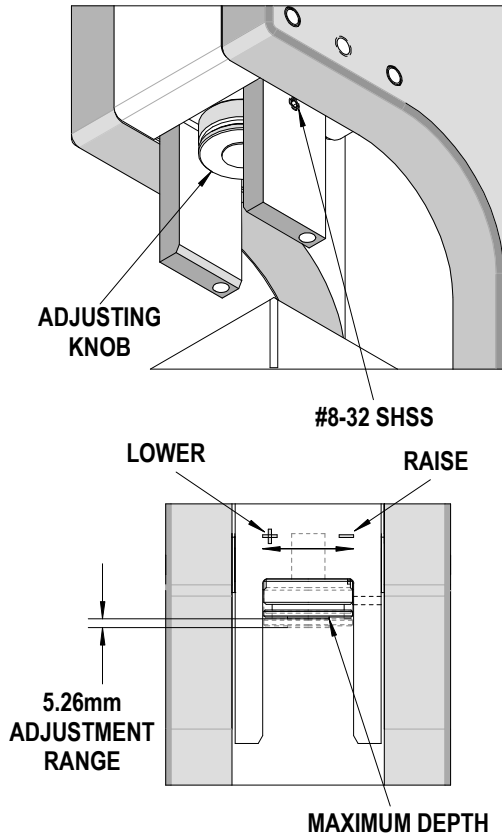

Figure 2-4
1. Loosen the #8-32 set screw in the Ram which locks the Ram Adjusting Screw into place. See Figure 2-4.
2. There is an indicator engraved on the ram just above the Ram Adjusting Screw. Turn the Ram Adjusting Screw clockwise (CW) toward the “+” sign to increase the ram stroke. To decrease the stroke, turn the Ram Adjusting Screw counterclockwise (CCW) toward the “-” sign. Stroke adjustment controls the shut height of the connector assembly. Ram stroke is set so that the connector measures a specific shut height when terminated. See Product Specifications for proper shut height dimensions and related information.